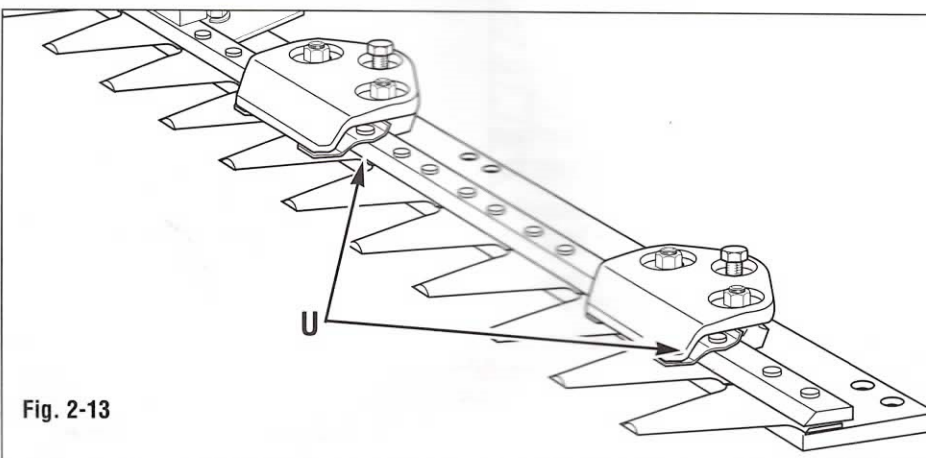

Fig. 2-13
14. Oil the area beneath each hold-down clip (U, Fig. 2-13) on the cutter bar.